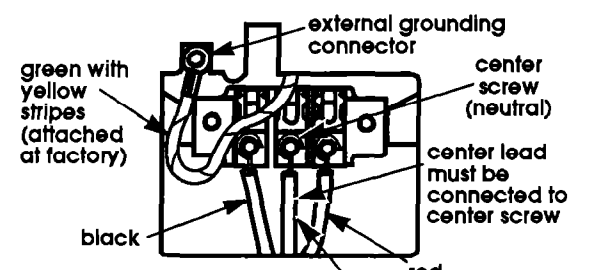

Figure 12
5. Loosen or remove terminal block screws. Connect the neutral wire (white or center) of direct wire cable under the center screw of the terminal block. Place the hook-shaped end of the wire over the terminal block screw with open side of the hook facing to the right. Squeeze hook end of wire together to form a loop. Connect the other two wires under the outer terminal block screws. Attach wires using the same method as the neutral wire (see Figure 12). Tighten all terminal block screws firmly.